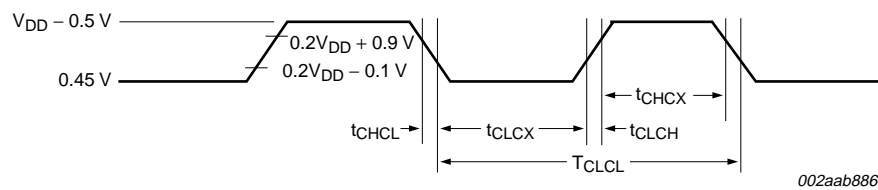

Fig 23. External clock timing
### External clock input (SC18IS601); see Figure 23
**External clock input (SC18IS601); see Figure 23**